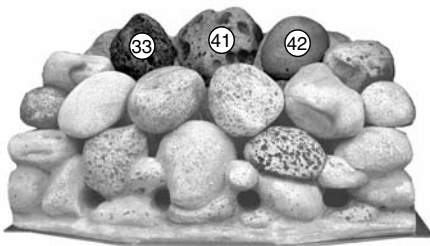

**Fig. 30**
4. Lay the first row of four loose pebbles on top of the front coal. Ensure the back of the pebbles are resting on the coal bed and there are even gaps all round (Fig. 30).